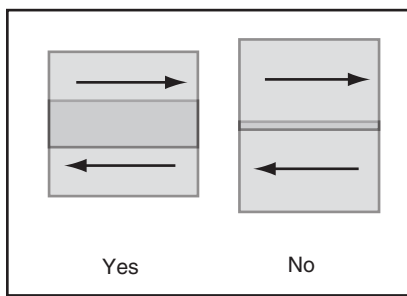

Figure 5. Overlap technique.
12. Overlap each stroke by 50%. This will ensure even coverage as shown in **Figure 5**. Less than 50%, as shown in the figure to the right, may lead to missed spots or streaky results.